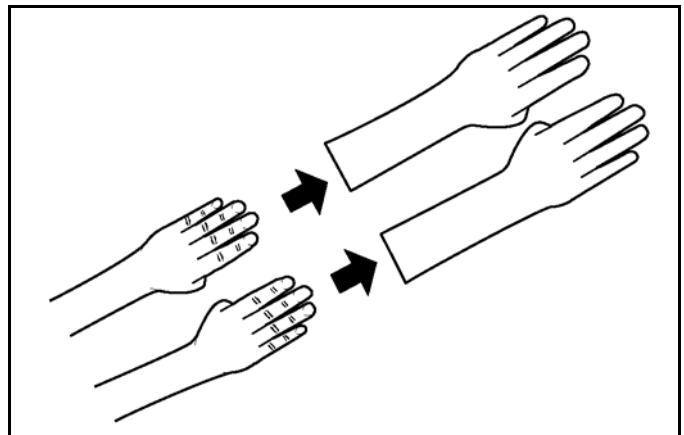

Figure-179
13. Put Personal Protective Equipment on (examples: gloves, face shield, and apron). See Figure-179.